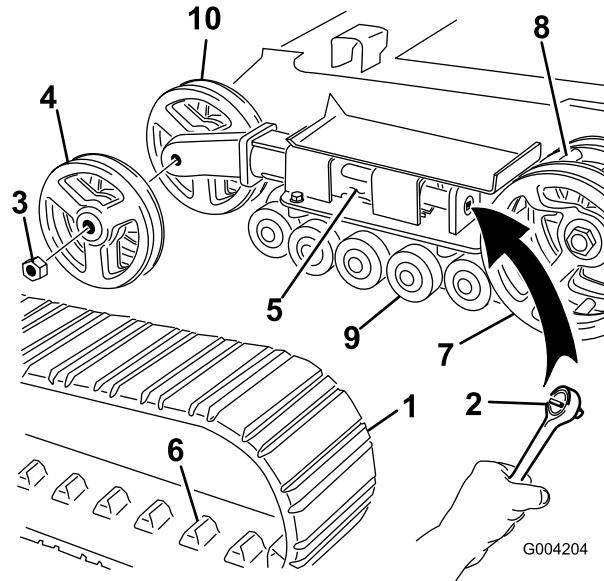

Figure 43
4. Using a 1/2 inch drive socket wrench, release the drive tension by turning the tensioning screw clockwise (Figure 41 and Figure 43).
5. Push the tension wheel toward the rear of the unit to move the tension tube against the frame (Figure 43). (If it does not touch the frame, continue turning the tensioning screw until it does.)
6. Remove the nut securing the outer tension wheel and remove the wheel (Figure 43).
7. Remove the track (Figure 43).
8. Remove the nut securing the inner tension wheel and remove the wheel (Figure 43).
12. Install the inner tension wheel and secure it with the nut removed previously (Figure 43).
14. Install the new track, ensuring that the lugs in the track fit between the cogs in the middle of the drive sprocket (Figure 43).
15. Install the outer tension wheel and secure it with the nut removed previously (Figure 43).